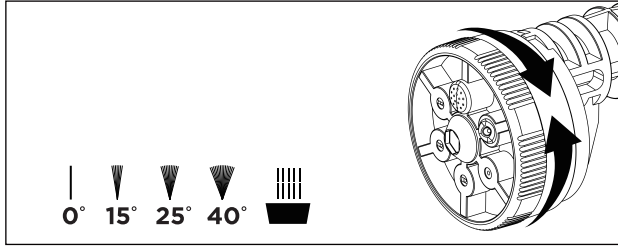

Fig. 10
TO CHANGE THE SPRAY PATTERN (FIG. 10)
3. Twist the nozzle collar to align the symbol of the desired spray pattern with the mark on the nozzle (Fig. 10).